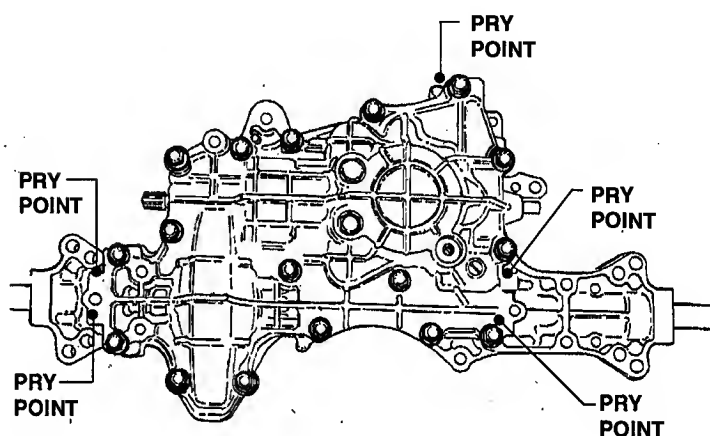

FIGURE 4.5
Separate the upper and lower halves of the housing case by inserting a screwdriver between the halves at the five (5) pry points and pry them apart. See Figure 4.5